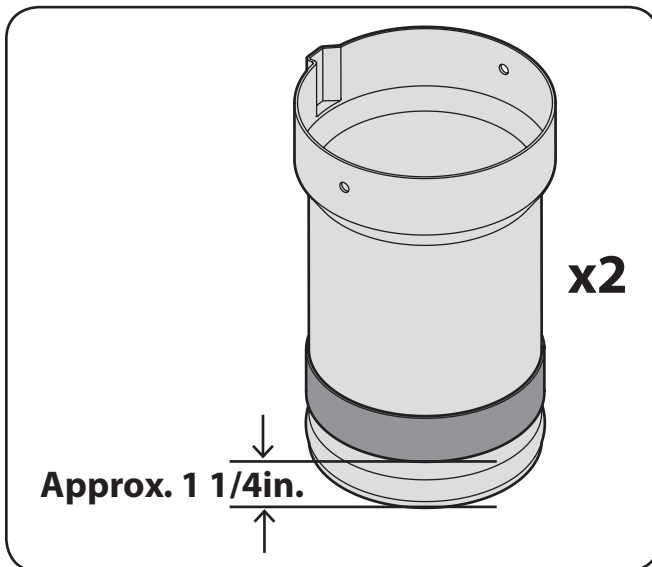

Figure 4-21
5. Apply the two wide adhesive rubber strips included with the bagger onto each chute extension tube, approximately 1.25 inches from the narrow end of the extension tube, which should be approximately a quarter inch above the bead on the narrow end of each extension tube, as shown in Figure 4-21.